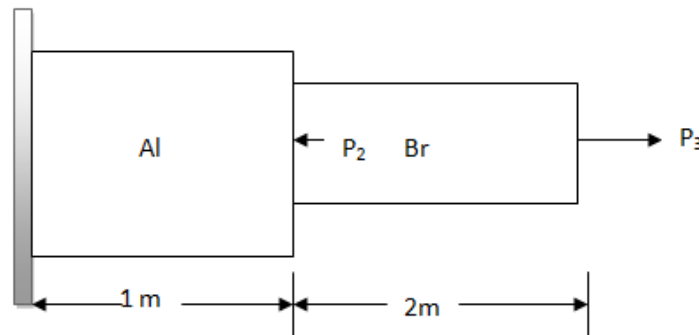

Fig.1
- d) For the axially loaded member shown in Fig.1 determine the nodal displacements and reaction at fixed end.